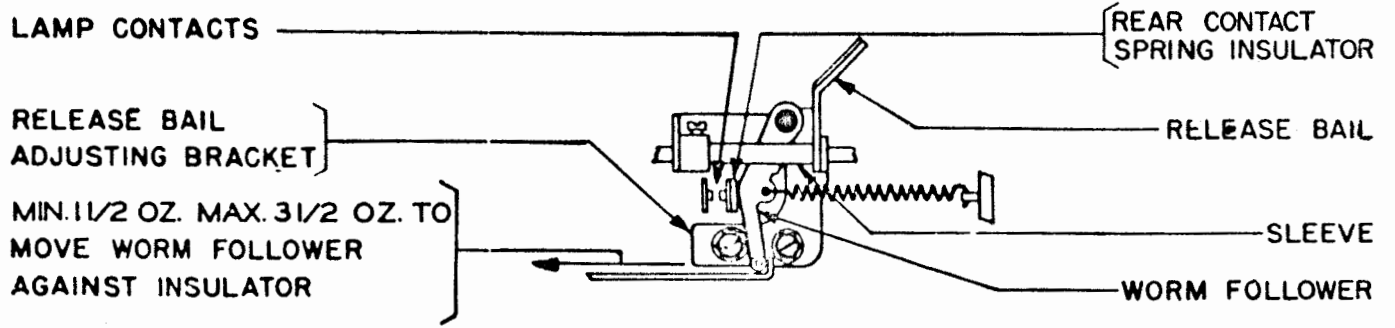

Figure 5
3.06 Worm-follower Spring: The spring should have a tension of minimum 1-1/2 ounces, maximum 3-1/2 ounces at a point where the worm follower just touches the rear contact spring insulator. (See Figure 5.)